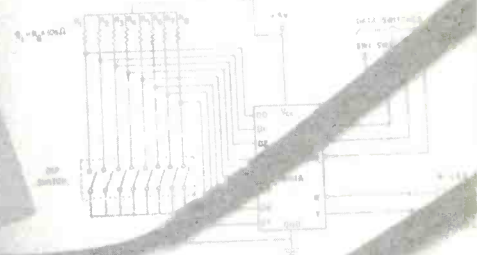
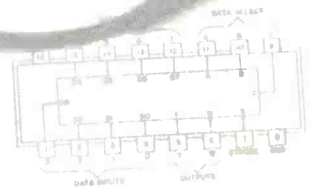

Fig. 16 Circuit for Experiment 2.
Fig. 17 Pin diagram for 74151A.
Figure 16 shows the circuit of the data selector experiment. You'll need the pin numbers for the 74151A as listed on the diagram. For those who don't have a data selector, refer to Fig. 17, which shows pertinent 74151A data. For the data selector, you'll use an eight-pole DIP switch in conjunction with 10-KΩ pull-up resistors. For the Select and Strobe action, firmly, you'll use the two push buttons.
3. Connect the IC's V_{CC} pin (pin 16) to +5V, connect the GND (pin 14) to ground. Next, connect the 8 input data switches to the Select inputs on the IC, using Fig. 17 as a guide. To configure SW1 as input A, connect the 10-KΩ resistor to the 3 output and the 10-KΩ resistor to the 10 input.